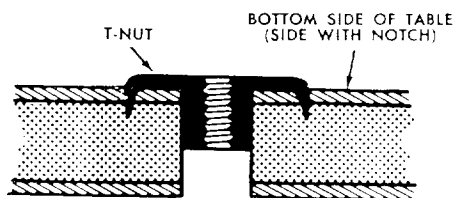

Figure 8b
1. Lay large table board on floor upside down. (Bottom side has cutout for clearance of elevating crank). Distinguish between 5 thru-bored holes and 7 countersunk holes. Drive tee-nuts into 5 thru-bored holes. (See Figure 8b.)